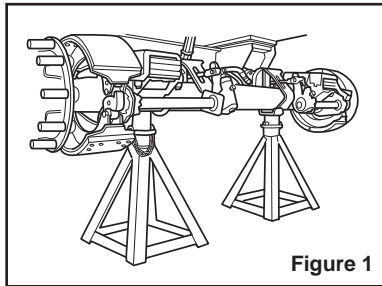

Figure 1
3. Place safety stands under the vehicle frame or under each axle spring seat (see figure 1).